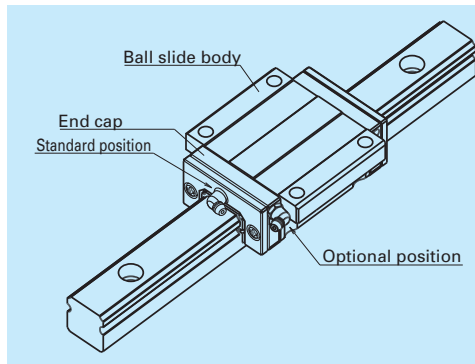

Fig. 12 Mounting position of lubrication accessories
(2) Mounting position of lubrication accessories
- The standard position of grease fittings is the end face of ball slide. We mount them on a side of end cap for an option. (Fig. 12)